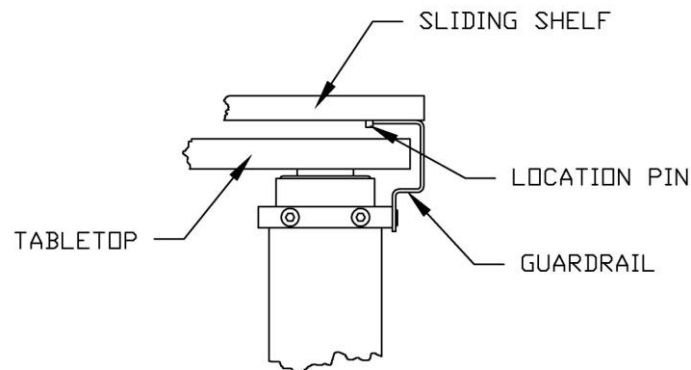

Fig. 5 Optional Sliding Shelf.
1. Place the Sliding Shelf on the top of the System Guardrails. Locator pins on each end of the shelf will provide positive alignment of the shelf from front to back (refer Fig. 5).